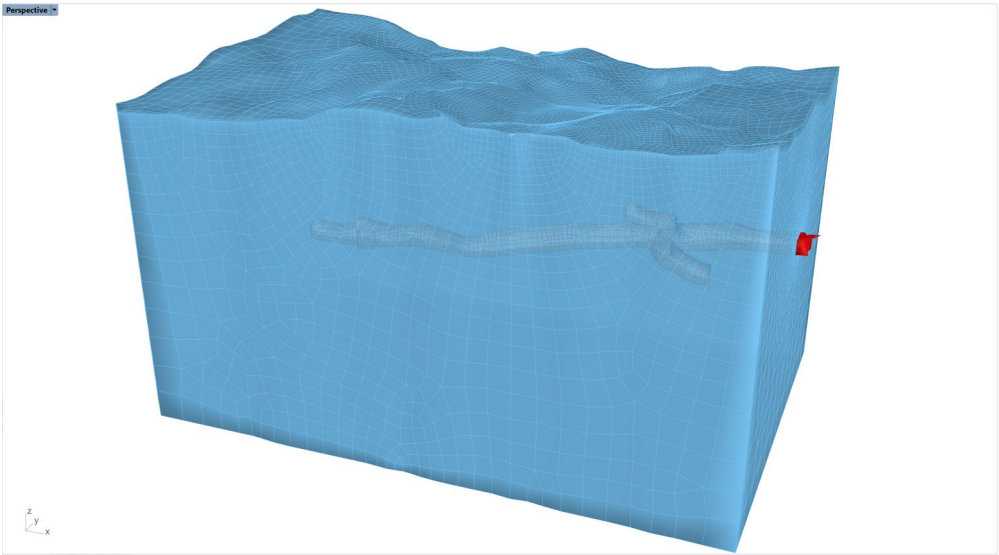

Figure 73: Meshes separated with the `_GExtract` command.
21. Select all meshes and use *Griddle*’s command **_ColorizeObjects** or click on the  icon in the *Griddle* toolbar. This will assign a unique color to each mesh piece (Figure 73).